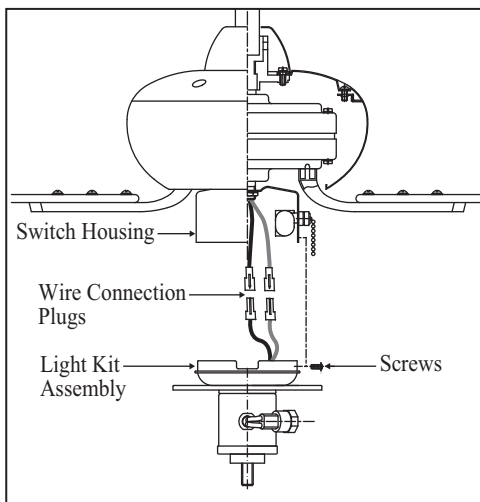

Figure 15
2. Carefully push all wires back into the switch housing, then install the light kit assembly onto the mounting plate with 3 screws. Be sure to tighten all screws. (Fig.15)